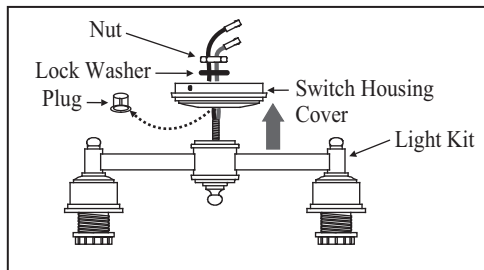

Figure 18
1. Remove the plug from the switch housing cover. (Fig. 18) Attach the light kit to the switch housing cover by feeding the light kit wires (black and white) through the hole of switch housing cover and then screw it onto the switch housing cover by nut & lock washer. Be sure it is tight enough to prevent light kit from vibrating loose. (Fig. 18)